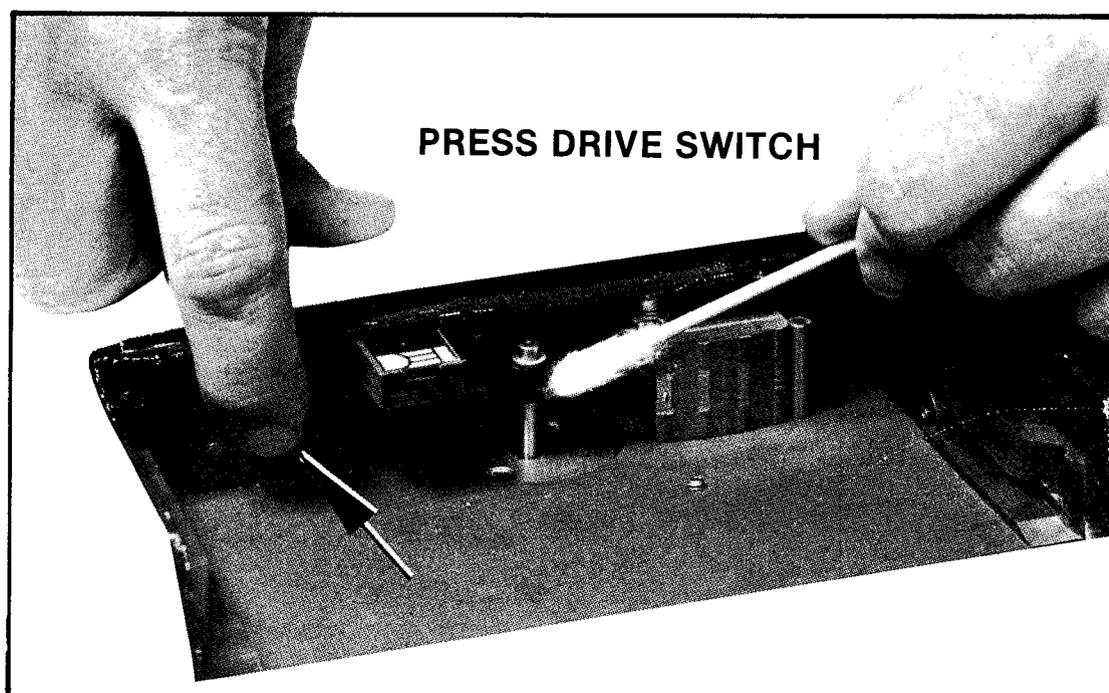

Figure 39. *Cleaning motor capstan*
2. Rotate the capstan by pressing one of the drive switches (Fig. 39).